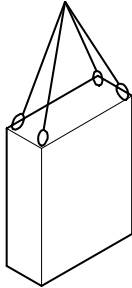

Fig. 10
1. Attach the ropes or multi-point suspensions Fig. 10 appropriately.